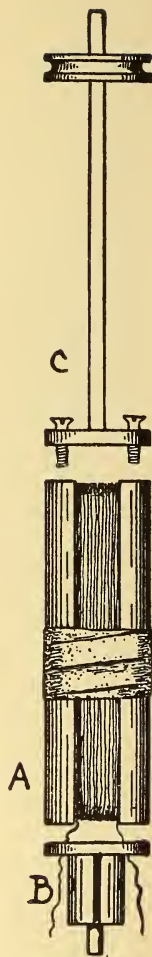

FIG. 11.
armature to hold the wire firmly in place and prevent it from working out at the centre when the armature is driven at high speed. The armature, when properly wound and wrapped, will appear as shown at A in Fig. 11, and it is then ready to have the ends screwed on. Several sizes of wire may be used to wind the armature, according to the current desired, but for general use it would be well to use No. 30 silk-insulated copper wire.
About four ounces should be enough for this armature, and the ends are to be passed through small holes in the brass end (B); see Fig. 11. One end must be soldered to one commutator, the other end to the other commutator. The end-piece (B) is attached to the iron armature (A) with machine-screws; then C is to be made fast in a similar manner.